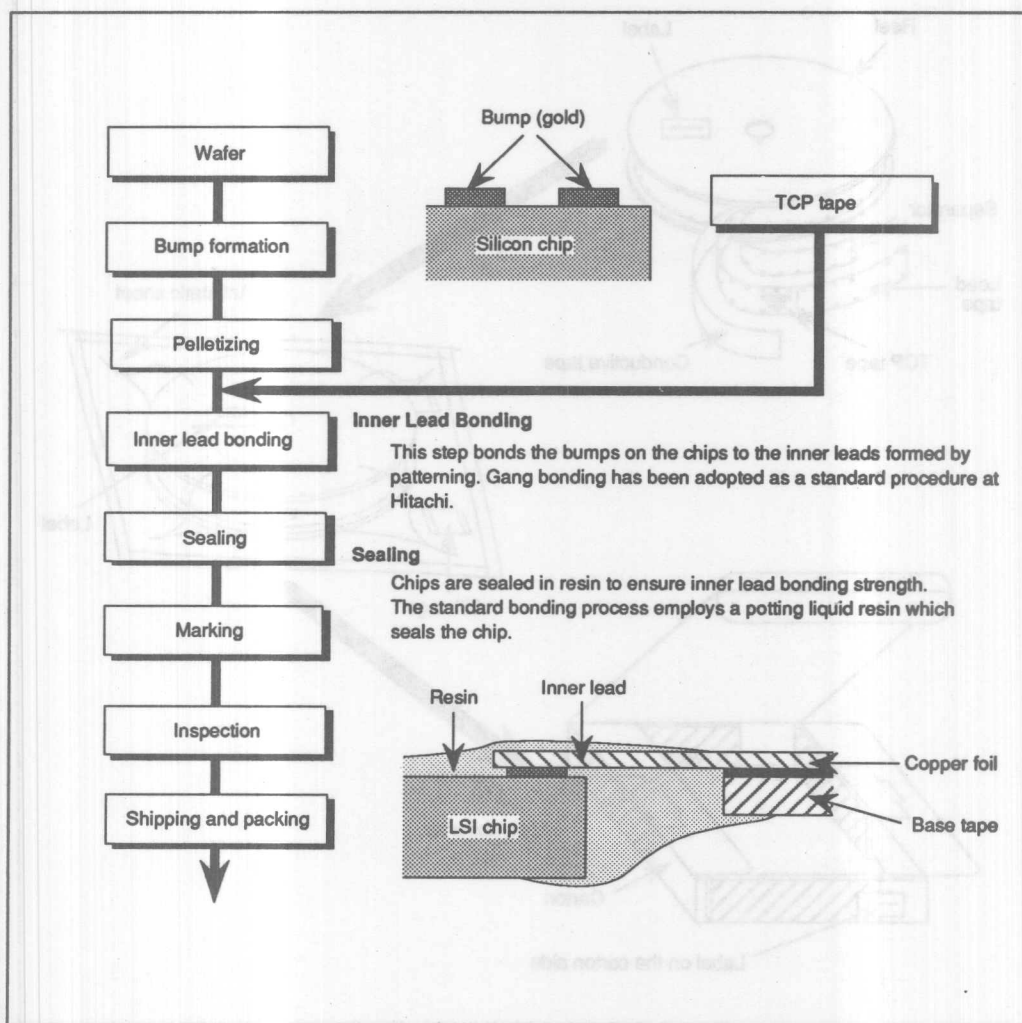

Figure 5 Standard Fabrication Process for TCPs Used in Hitachi LCDs
**TCP Fabrication Process:** The TCP fabrication process starts from wafers (or chips) with bumps, and a patterned tape. After being bonded by a high-precision inner lead bonder, the chips are sealed in resin. Figure 5 shows the standard fabrication process for TCPs used in Hitachi LCDs.